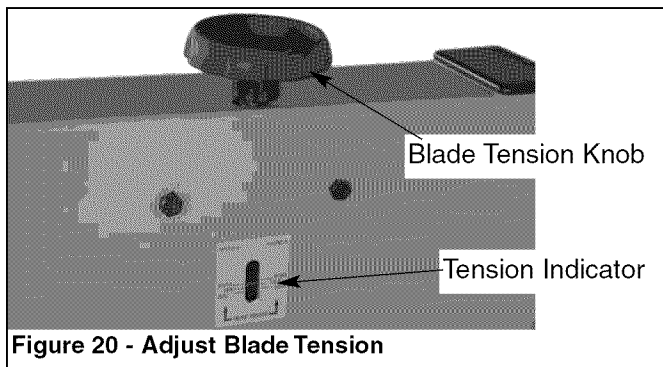

Figure 20 - Adjust Blade Tension
- To loosen the tension of the blade, turn the blade tension knob counter clockwise and the tension indicator will be lower. To tighten the tension of the blade, turn the tension knob clockwise, and the tension indicator will rise (see Figure 20).